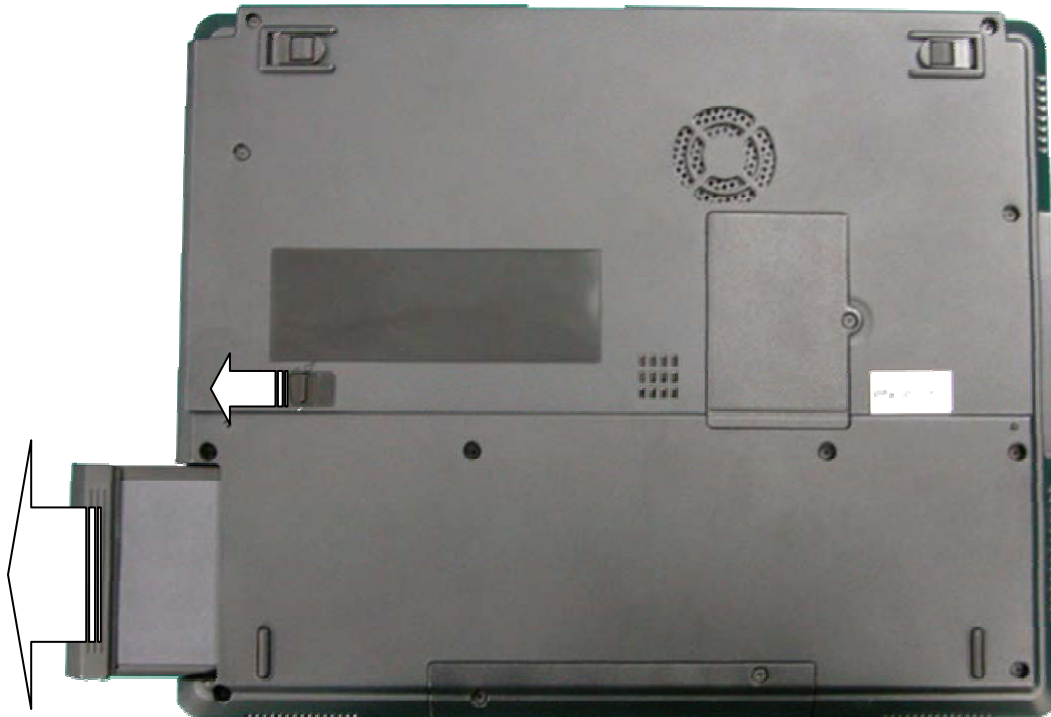

Fig. 1 Removing the battery
3. Unlock the battery and slide it out of its place as the arrow shows in Fig. 1